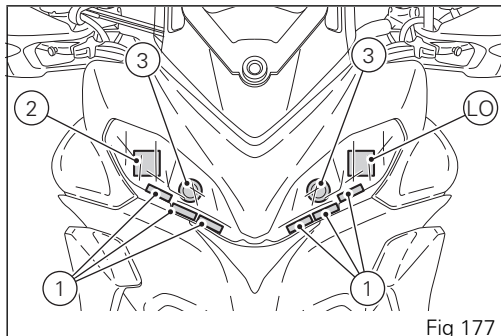

Fig 177
(Fig 177) shows the locations of the parking light LED unit (1), low beam LED unit (2) and high beam lights (3).